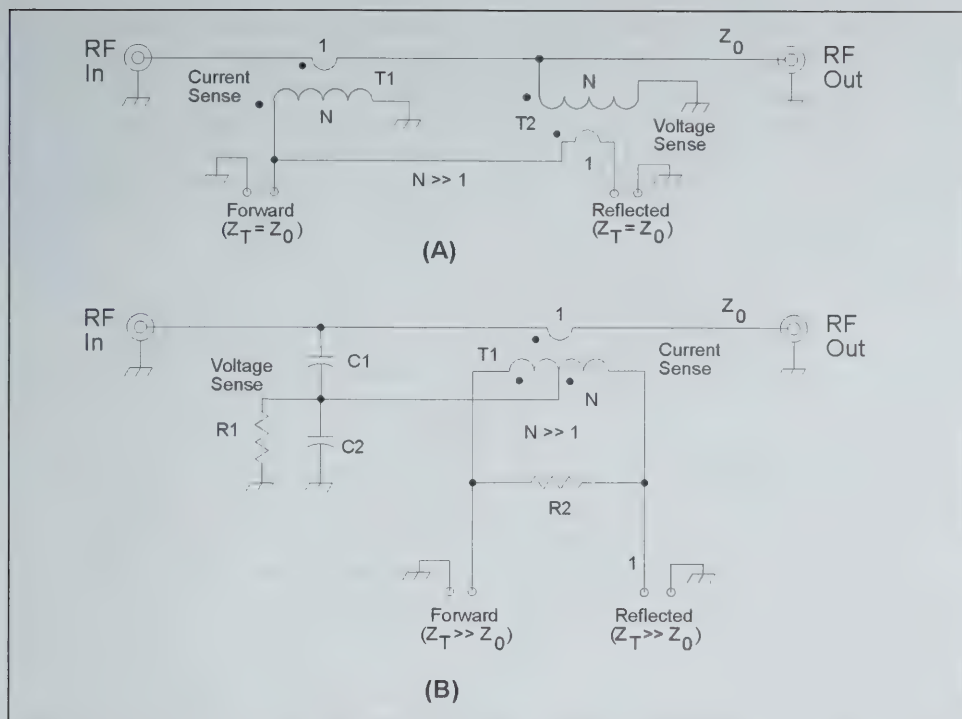
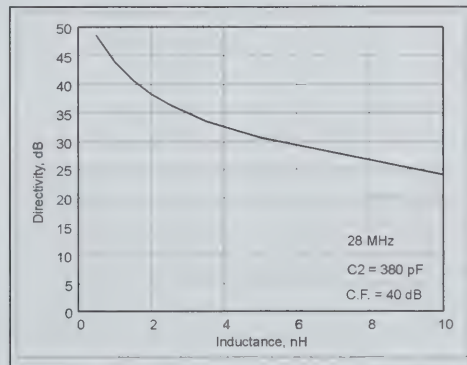

Figure 5—Directional couplers: (A) Tandem Match coupler, and (B) Bruene bridge (phase compensated).
Figure 7—Bruene bridge directivity sensitivity to lead inductance.
Several directional coupler and bridge circuits were studied for possible use in this instrument. The choices were narrowed to two circuits: the coupler used in the Tandem Match [4] and variations of the popular Bruene bridge [5]. The Tandem Match coupler is shown in Figure 5(A) and one variation of the Bruene bridge is shown in Figure 5(B).
While there are obstacles to achieving good directivity, it can be done. Referring to Figure 5(B), the main obstacles to good directivity are: a) parasitic lead inductance associated with C2, b) high values for C2, c) excessive secondary wire length on T1, and d) impedance control in the bifilar secondary winding. The lead inductance and C2 result in a series resonance that progressively deteriorates bridge balance as the frequency is raised. Figure 7 shows the deterioration in 28 MHz directivity with increased parasitic lead inductance in an otherwise ideal Bruene bridge.